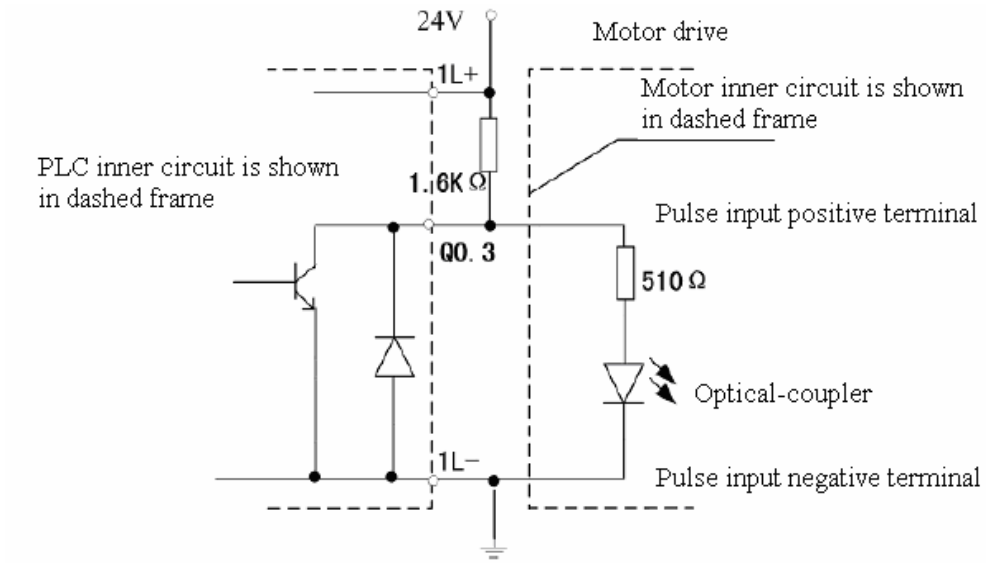
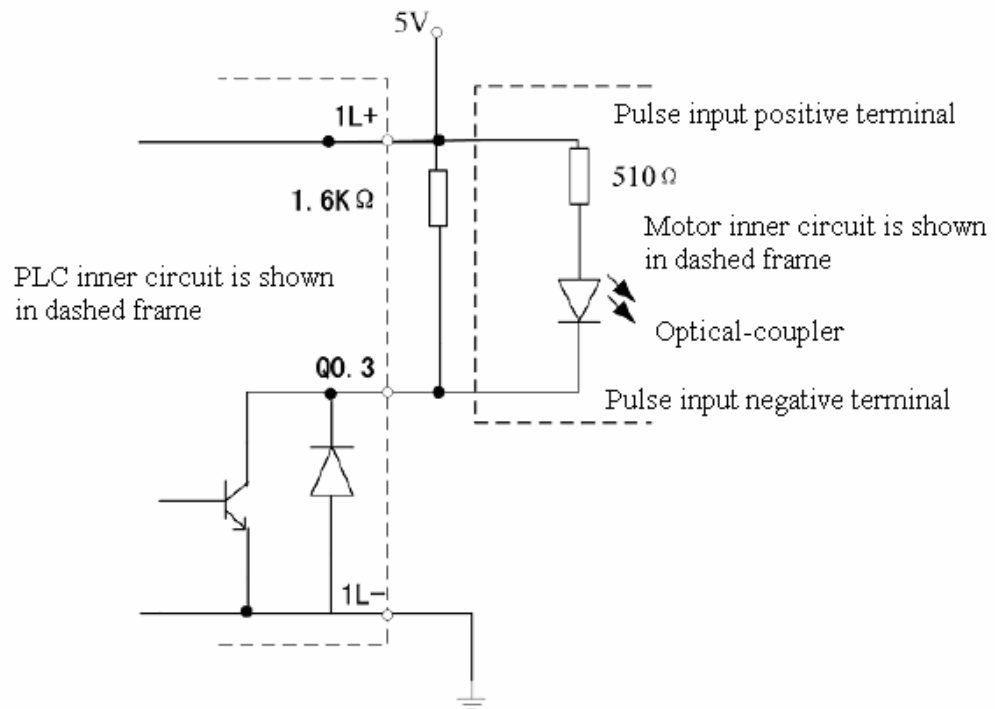

Figure 2.5.2 The Connection between LM3106A High-speed Output and Motor Example1 (same connection method to Q1.1)
Figure 2.5.3 The Connection between LM3106 High-speed Output and Motor Example2 (same connection method to Q1.1)
- ◇ Figure 2.5.2 and Figure 2.5.3 show two examples of the connection between LM3106A high-speed output and motor, and L+ connects with 24V and 5V respectively. In figure 2.5.2, L+ connects with 24V. 1.6K Ω resistance is used to the drive rated current value between 10 and 20mA; its resistance value depends on the load (motor driver) current value, and assures that the dynatron current is between 15mA and 100mA when the output dynatron is break-over to supply current channel to the high-speed output. In Figure 2.5.2, when the application program sets Q0.3 value as 1 the dynatron is break-over and does not drive load; when the application program sets Q0.3 value as 0 the dynatron is not break-over and drives load. Figure 2.5.3 is suitable to L+ connects with 5V.